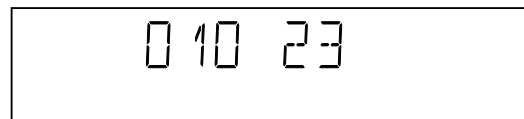

Fig. 32
The 2-digit number (23) on the right of Fig. 32 indicates the number of times the loop test has been performed.